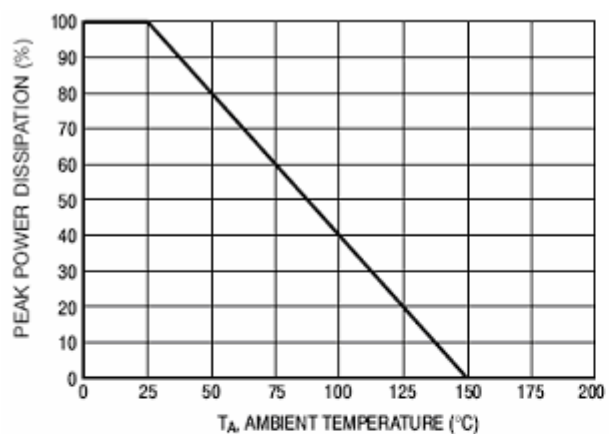
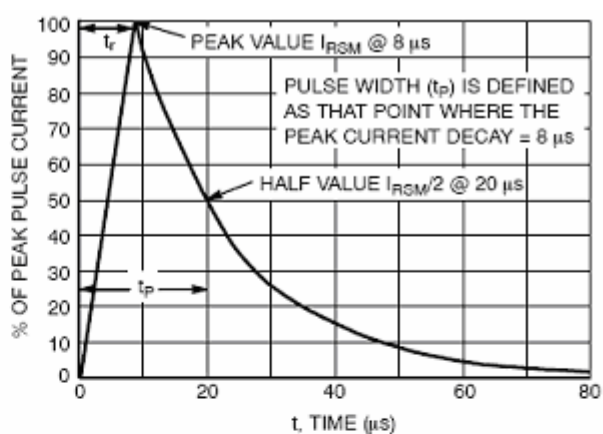

Figure 1. Pulse Derating Curve
Figure 2. $8 \times 20 \mu\text{s}$ Pulse Waveform
1. Non-repetitive current per Figure 1. Derate per Figure 2.